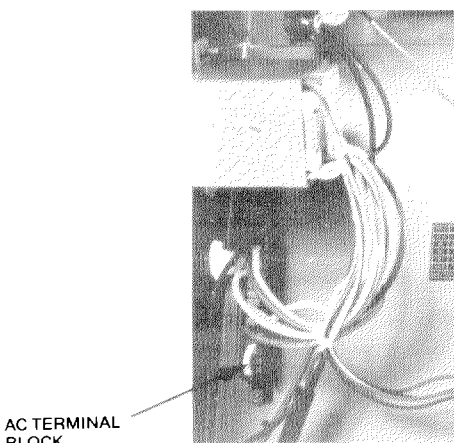

Figure 2. Location of Voltage Selection Terminal Block Inside Mainframe
2. Locate the voltage selection terminal block on the bottom of the chassis, near the power transformer. Refer to Figure 2.